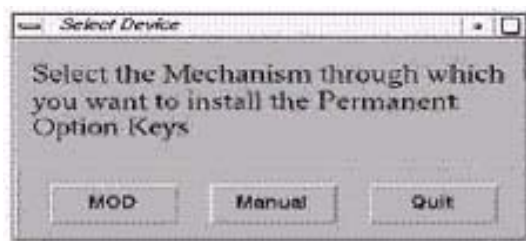

Figure 6-20 Select Device window
- 6.) Click PERMANENT. A Select Device (Figure 6-20) window opens. Select the mechanism through which you want to install the Permanent Option Keys.
Note: The Select Device illustration in Figure 6-20 is outdated — the new window displays selections for MEDIA, Manual, and Quit. Screen requires an update.